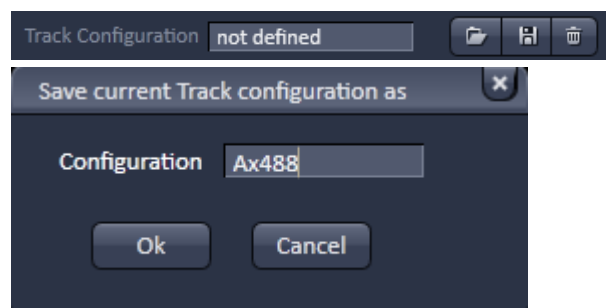

Fig. 31 Saving Configurations via the experiment Manager
- For storing a new track configuration click  of the **Track Configuration** and enter a desired name in the first line of the list box (Fig. 31), then click **Ok** to store the configuration.